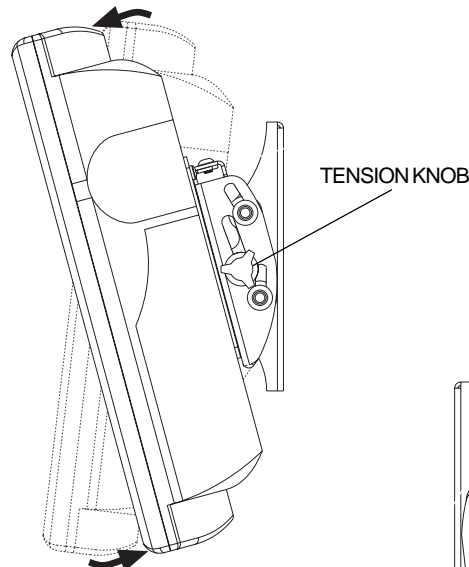

fig. 4.1
- 4** Adjust tension knob on right side of mount shown in figure 4.1 to desired tension to balance your screen size and weight.
Push or pull from top or bottom of screen to adjust tilt as shown in figure 4.1. The tilt can be adjusted to a maximum of 15° forward or 5° backward.